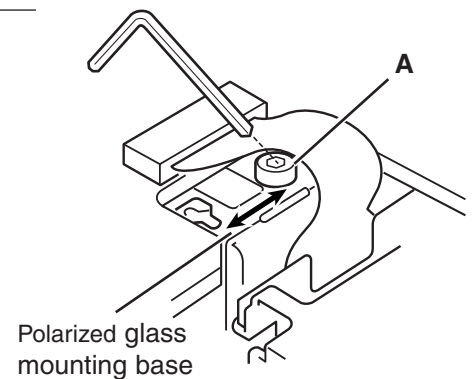

Fig.1-1
- 1 Loosen a screw **A** (**Fig.1-1/1-2**) on the polarized glass mounting base which you intend to adjust.
- 2 Turn the polarized glass mounting base as shown in **Fig.1-1** to obtain the darkest brightness on the screen.